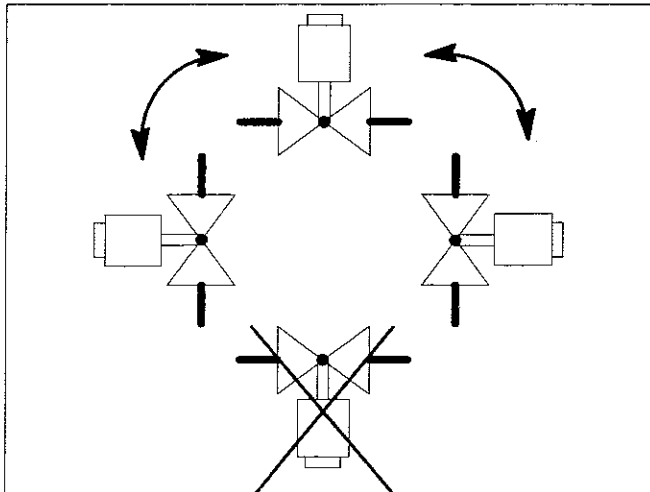

Figure 5. Mounting position
Vertical to 90 degrees from vertical, refer to figure 5.
### Prepare piping and install valve (Figure 5.)
4. Install valve in a horizontal pipe line, (refer to figure 5. for mounting position) with the gas flow matching the direction indicated by the arrow on the casting.